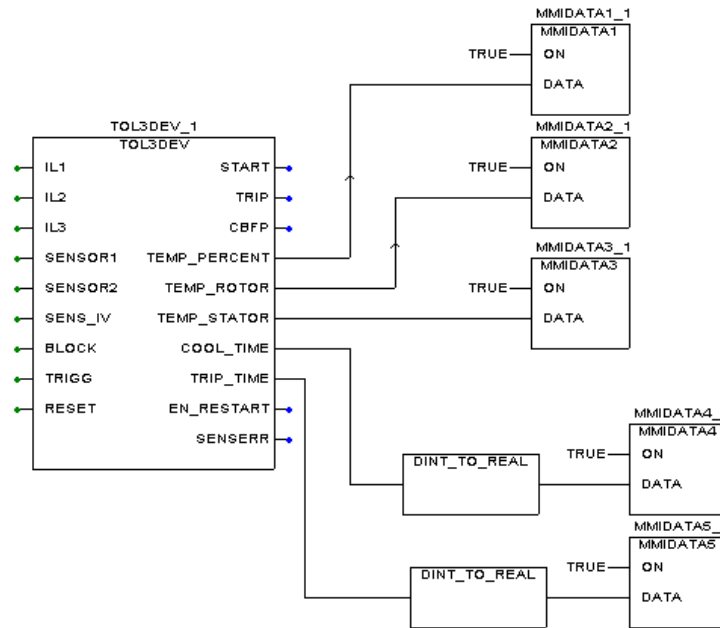

Figure 2.4.4.-1 Graphic representation of the TEMP(%), ROTOR(%) and STATOR(%) outputs in the MIMIC view of the relay
- 3 Via the MIMIC view of the relay provided the connection presented in Figure 2.4.4.-1 below has been configured with the Relay Configuration Tool
- 3 Via the MIMIC view of the relay provided the connection has been configured with the Relay Configuration Tool. For an exemplary connection, see Figure 2.4.4.-1 above.